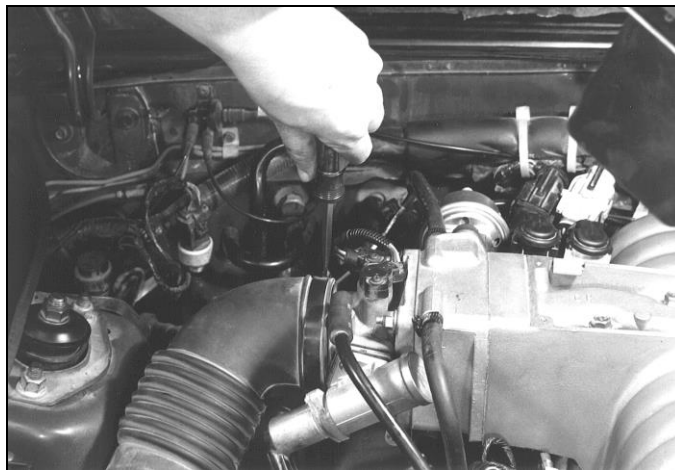

Figure 2
3. Disconnect and remove the mass air flow sensor and duct work. See Figure 2.